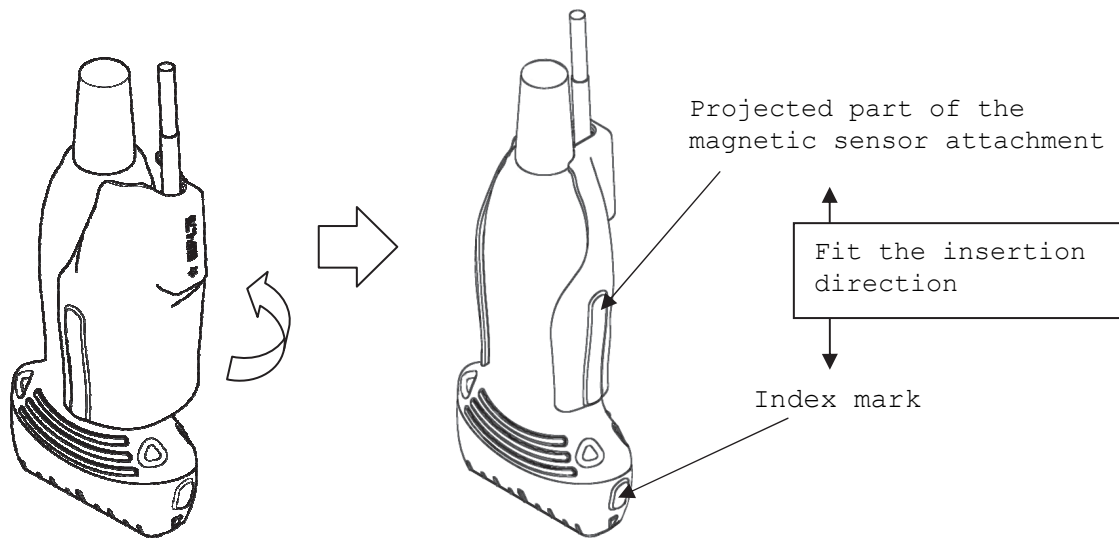

Fig. 7 How to attach the Magnetic sensor attachment
- c) Place the magnetic sensor attachment on the probe as shown in Fig. 7. Fit the projected part of the magnetic sensor attachment in the index mark of the probe.